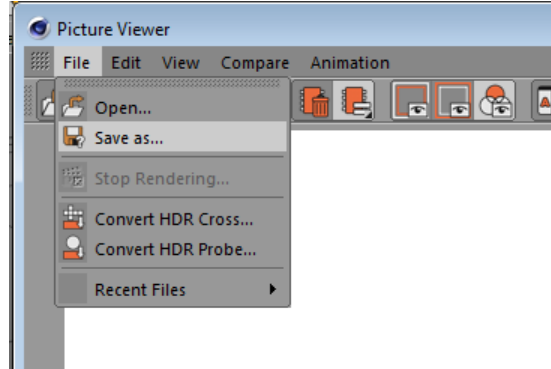
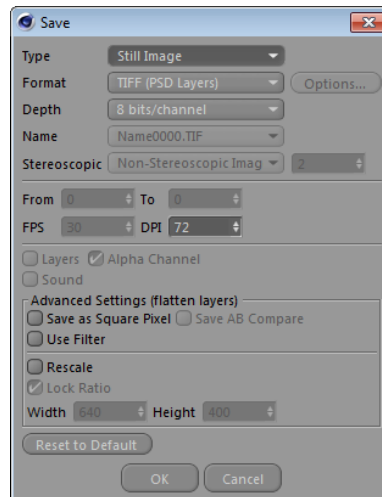

Figure 2-29 Choosing the Save as option from the File menu
Figure 2-30 The *Save* dialog box
4. In the **Picture Viewer** window, choose **File > Save as**, as shown in Figure 2-29; the **Save** dialog box is displayed, as shown in Figure 2-30.